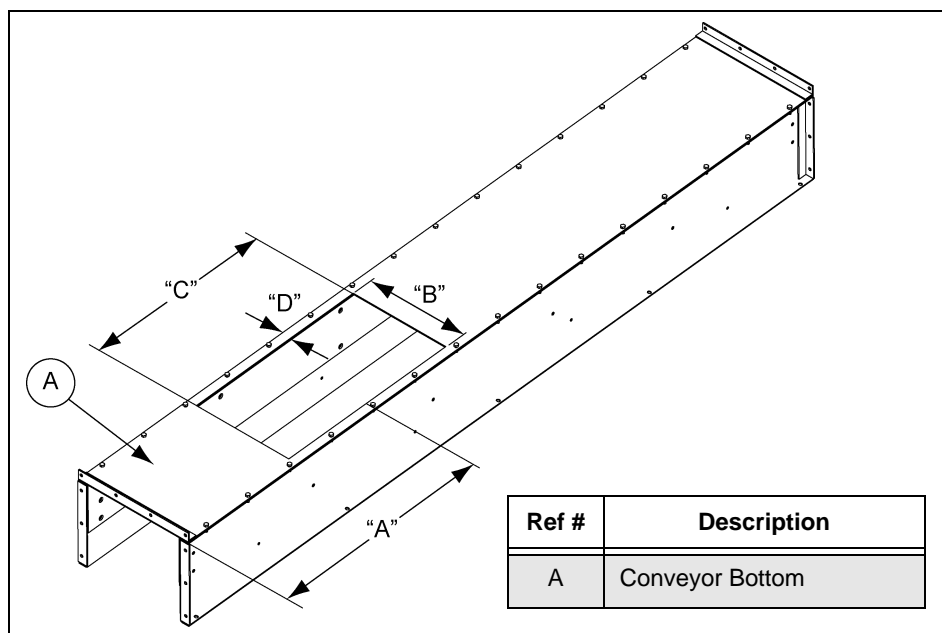

Figure 3B
2. Measure from the intermediate flange connection and mark the centerline of the discharge on the intermediate bottom (dimension "A"). (See Figure 3B.)